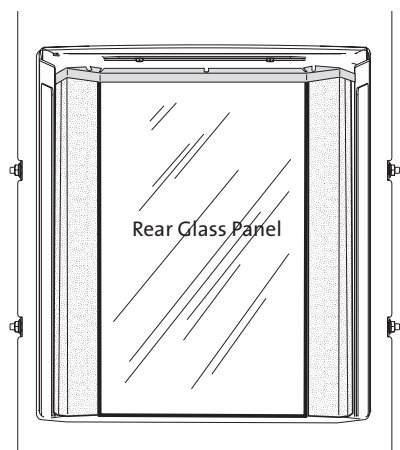

Figure 26. Install Rear Glass Panel.
- Orient the rear panel, shiny side out, textured side in.** Tilt the panel to engage its upper edge behind the retainer bracket. Seat the panel all the way back and centered against the back wall. See fig. 26.